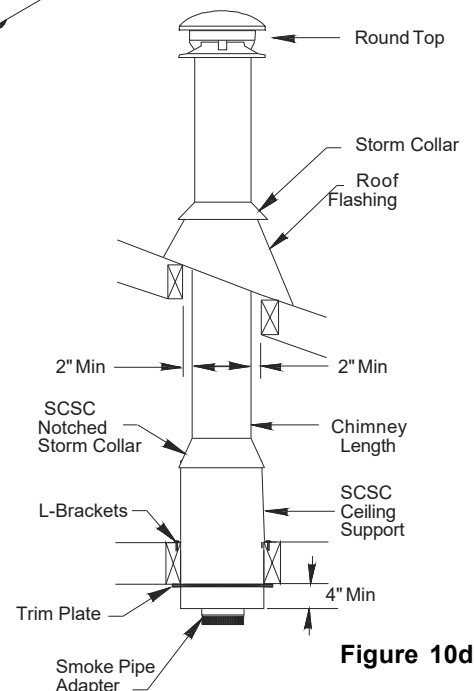

Figure 10d
6. Continue with the installation as per the Flashing and Round Top sections. See Figure 10d.